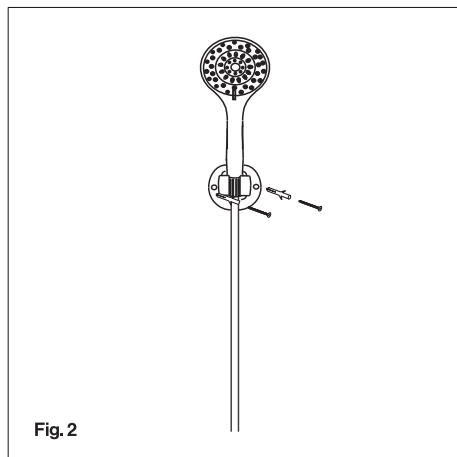

Fig. 2
1. Make the 2 screws points of the bracket holder beside the heater. It is recommended the top of the portion is in level with the top of the water heater. (Fig. 2)